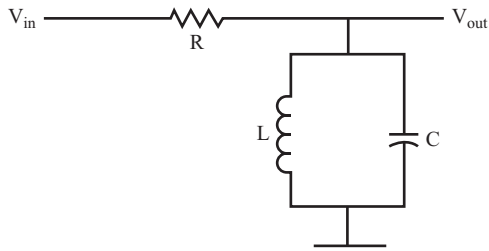
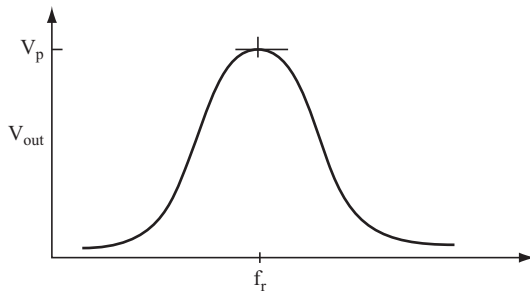

FIGURE 7.17
FIGURE 7.18
**12** For the circuit shown in Figure 7.17, the output voltage equals the voltage drop across the inductor and capacitor.
If  $V_{\text{out}}$  is plotted on a graph against frequency for the circuit shown in Figure 7.17, the curve looks like that shown in Figure 7.18. At the resonance frequency, the impedance of the parallel inductor and capacitor is at its maximum value. Therefore, the voltage drop across the parallel inductor and capacitor (which is also the output voltage) is at its maximum value.
All frequencies within the bandwidth are passed by the circuit, whereas all frequencies outside the bandwidth are blocked. A circuit with this type of output (such as the circuit shown in Figure 7.17) is referred to as a *bandpass filter*.